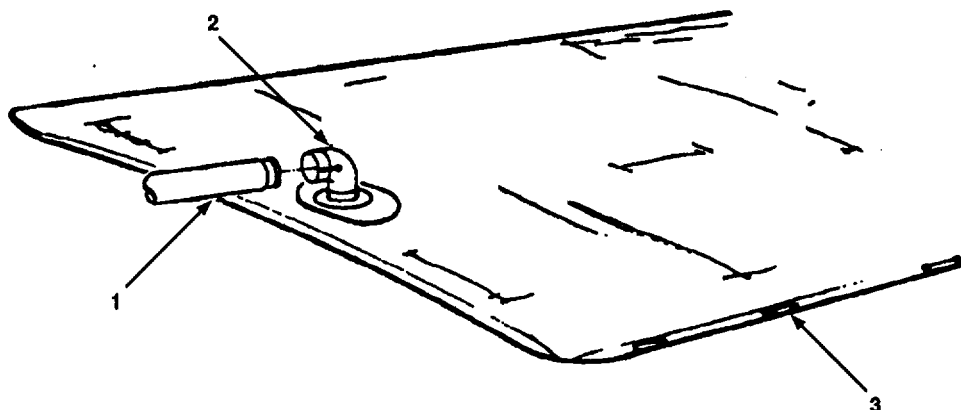

Figure 2-74. Disconnecting 20,000 Gallon Pillow Tank.
- g. Unscrew male coupling half (9) and remove from coupling pipe fitting (7).
- h. Push cam arms on discharge hose assembly (10) forward to open. Remove valve assembly (24) from end of discharge hose (10).
- i. Remove eight nuts (12), lock washers (13), flat washers (14), and bolts (15) and flat washers (16). Remove female quick-disconnect coupling half (8) from 4 inch gate valve assembly (17).
- j. Carefully remove gasket (18).
- k. Remove eight nuts (19), lock washers (20), flat washers (21), bolts (22) and flat washers (23). Remove male flanged, quick-disconnect, coupling half (11) from 4 inch gate valve assembly (17).
- l. Carefully remove gasket (24).
- m. Disconnect first discharge hose assembly (Figure 2-74, 1) from female-to-female filler/discharge elbow (2) of 20,000 gallon storage tank (3).